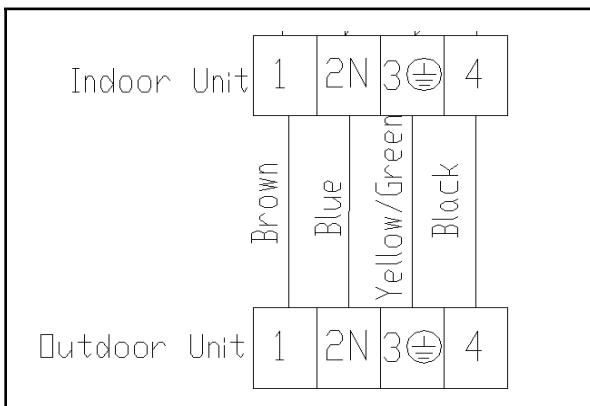

Fig.14
5. Connect the power connecting wires and signal control wire separately to the corresponding terminals. **(Refer to Fig.14 for the wiring diagram of the unit.)**
3. Connect the unit's connecting wires separately to the corresponding terminals **(refer to Fig.14)**.